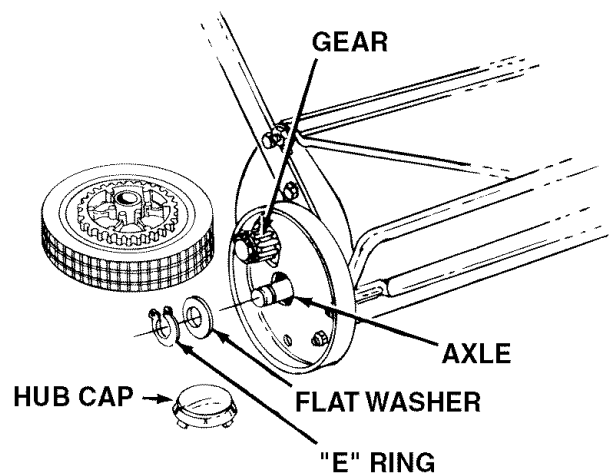

FIGURE 23
- Every two years remove the wheels and clean the gears found inside the wheel housing. After cleaning, lubricate with an even coat of light grease. To remove the wheel, pop off the hub cap using a screwdriver. Remove the retaining "E" ring and flat washer and then the wheel. See figure 23.